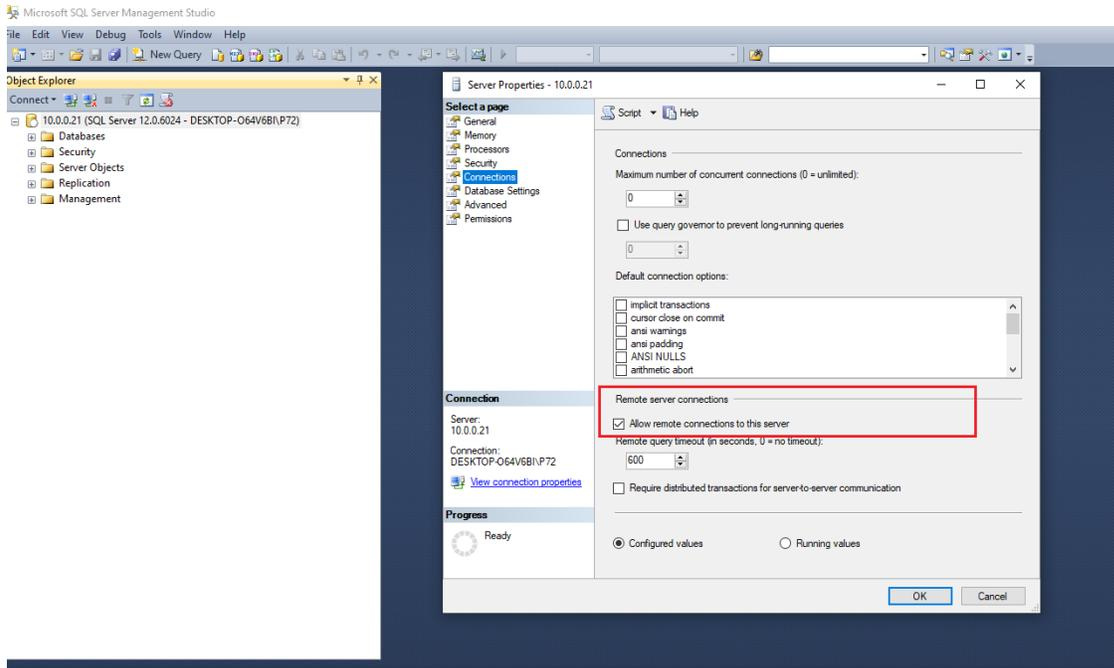

Figure 32
16. Configure the SQL Server to support remote access. (Figure 32)